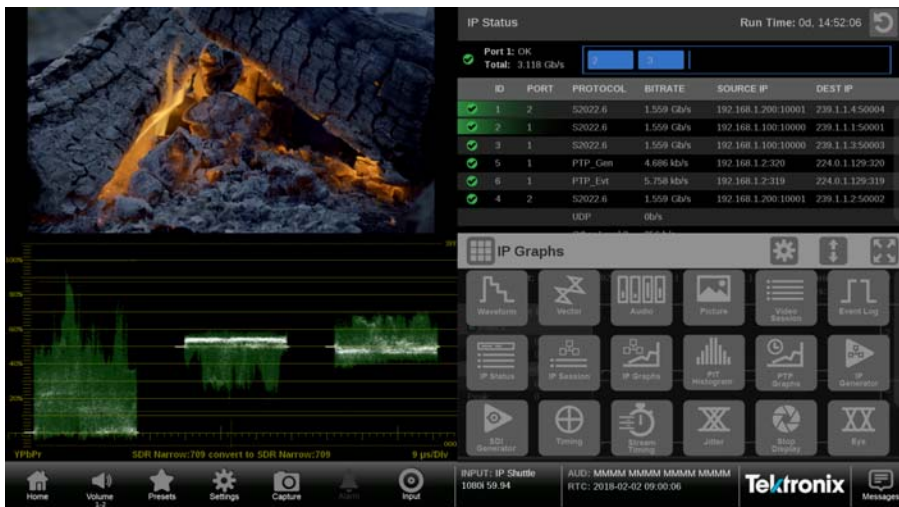

Figure 22: PRISM display in four-tile mode
2. If necessary, touch the  icon to open the list of available applications. (See Figure 22 on page 33.)